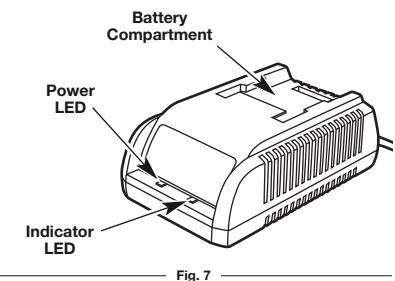

Fig. 7
- The red Power LED will illuminate (Fig. 7).
**NOTE:** Make sure the battery is fully inserted into the charger by making sure the red Indicator LED charge light is on (Fig. 7).
- Once the battery has reached a full charge level the Indicator LED will turn from red to green (Fig. 7).